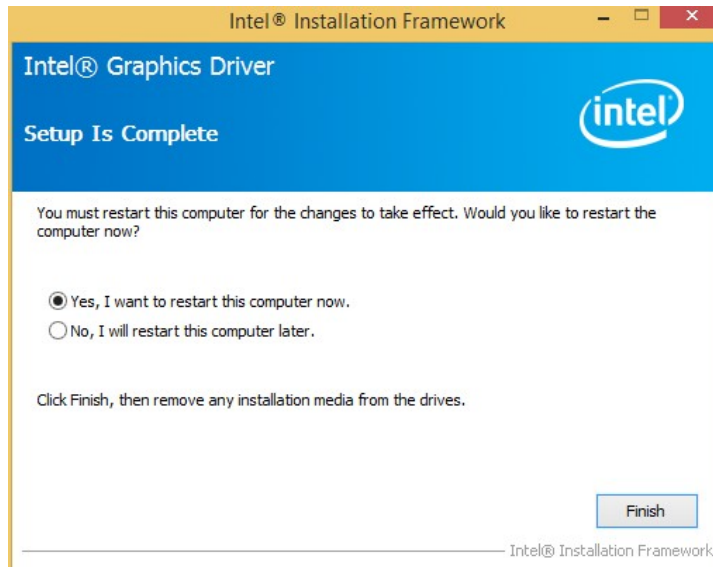

Figure 6-12: Graphics Driver Installation Finish Screen
**Step 12:** The **Finish** screen in Figure 6-12 appears.